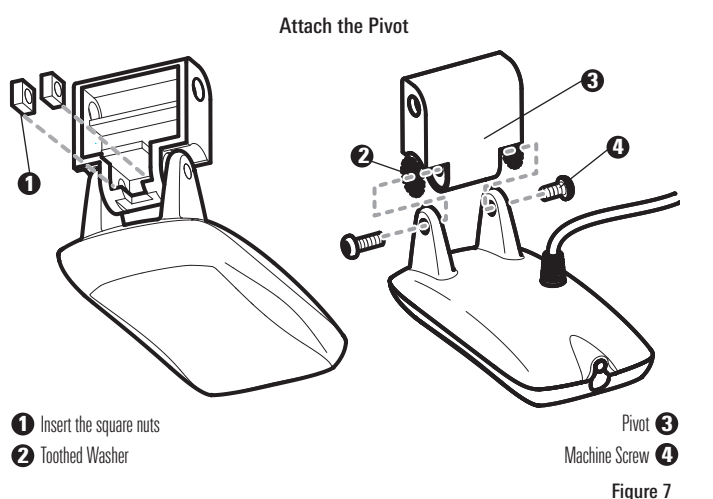

Figure 7
1. Attach the pivot to the transducer body using the two 1/4"-20 x 3/4" (19 mm) machine screws, toothed washers, and square nuts (Figure 7). The toothed washers must fit on the inside of the transducer knuckle, between the pivot and the knuckle. The square nuts will be prevented from rotating by the pocket in the back of the pivot. An Allen wrench is provided which fits all the 1/4"-20 screws, but do not fully tighten the screws at this time.